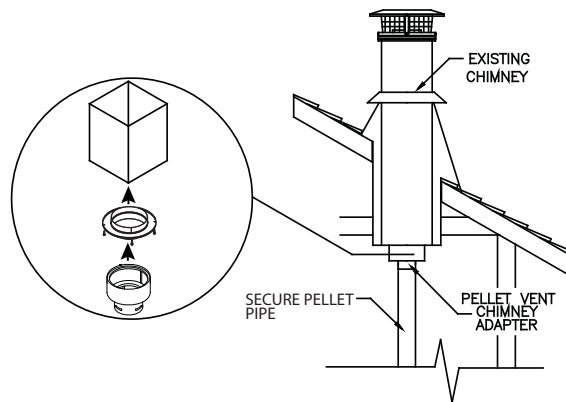

Figure 17
6. If it is desired to attach to an existing 6"-8" factory-built chimney, either roof supported or ceiling supported (**Figure 17**):